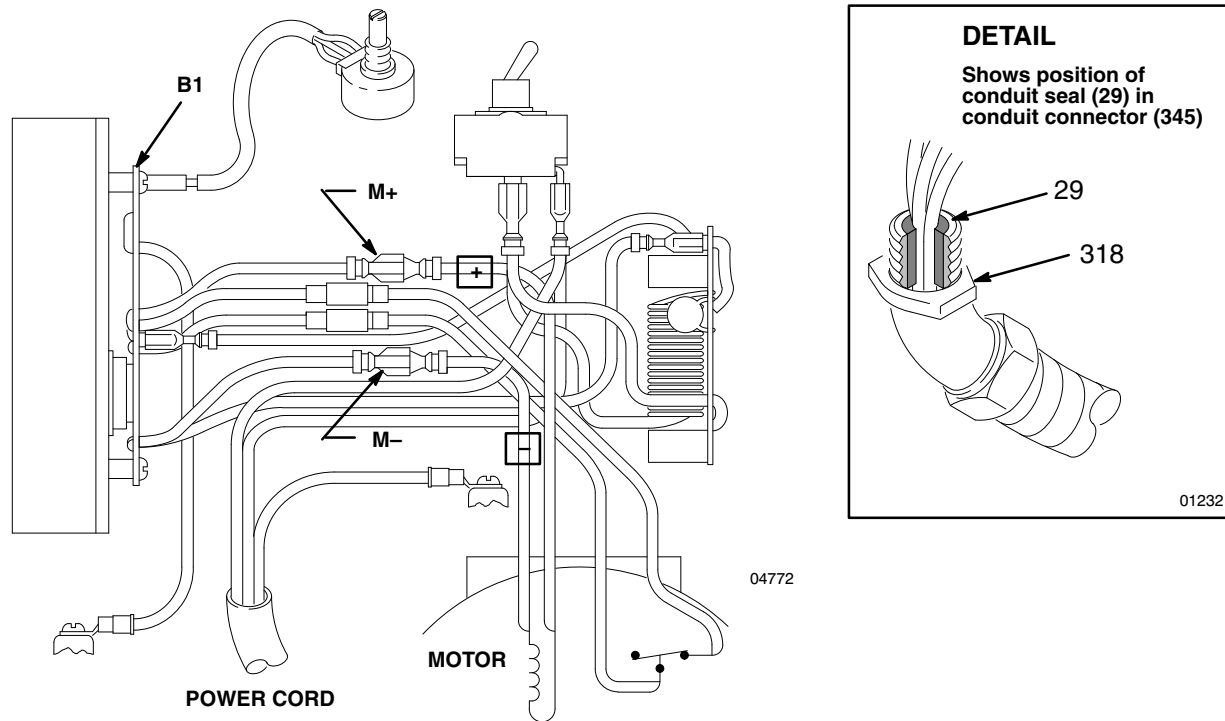

Fig. 21
# Motor Replacement (Fig. 21 and 22)
2. Remove the motor shield (59).
3. Remove the pressure control board/cover (301). Disconnect the four motor leads. See figure 21.
4. Loosen the conduit connector nut on the conduit connector (318) at the pressure control.
5. Swing the conduit (1) away from the conduit connector (318).
6. Remove the conduit seal (29) from around the conduit elbow coming into the pressure control. Pull the motor leads through the elbow, one at a time.